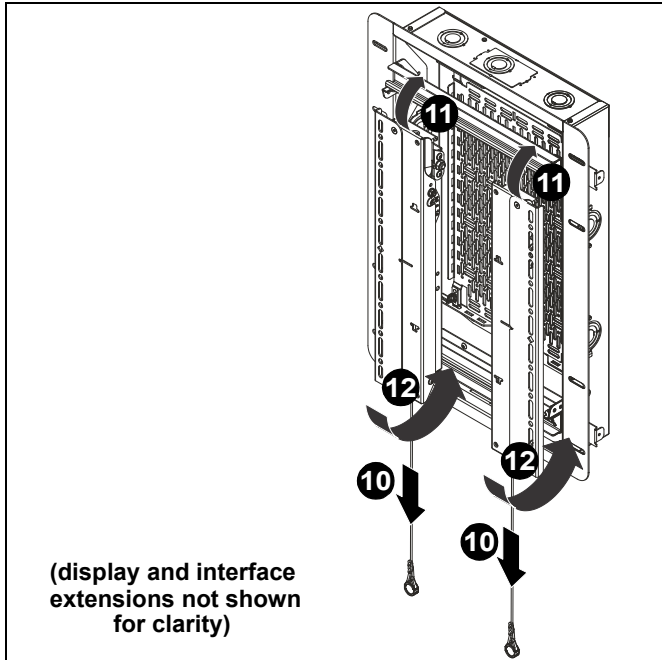

Figure 24
10. Lower home latch release cords on each interface bracket (A and B). (See Figure 24)
11. Raise display with attached interface brackets and hook top of brackets into top of mount. (See Figure 24)
12. Slide interface rail hooks under lower rail. (See Figure 24)